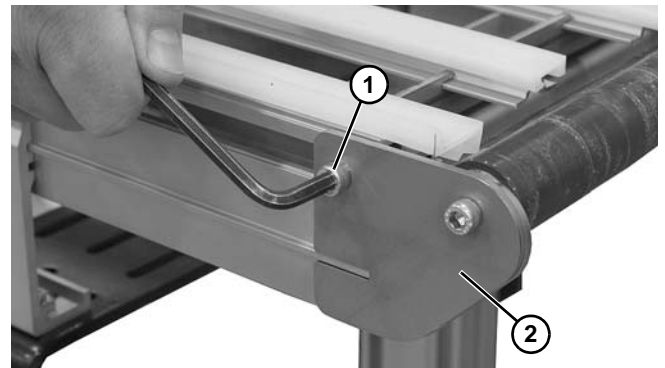

Figure 79
1. On both sides of conveyor, remove fastening screw (Figure 79, item 1).
2. Remove idler tail (Figure 79, item 2) from conveyor.